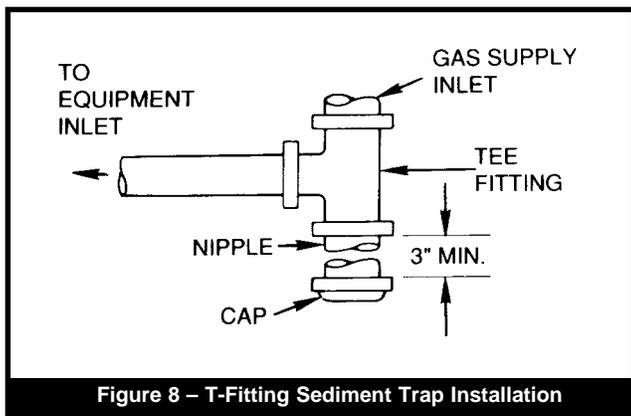

Figure 8 – T-Fitting Sediment Trap Installation
- A trap (drip leg) must be provided ahead of the gas controls (see **Figure 8**). A manual gas shutoff valve must also be provided for service convenience and safety. Check the local codes.